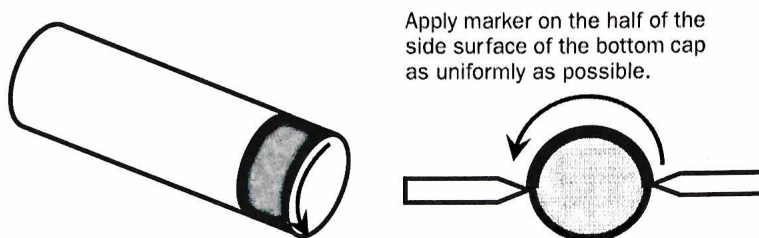

Fig. 2 Applying marker on the bottom cap
- ◆ Apply marker on the half of the side surface of the bottom cap as uniformly as possible (Fig. 2).